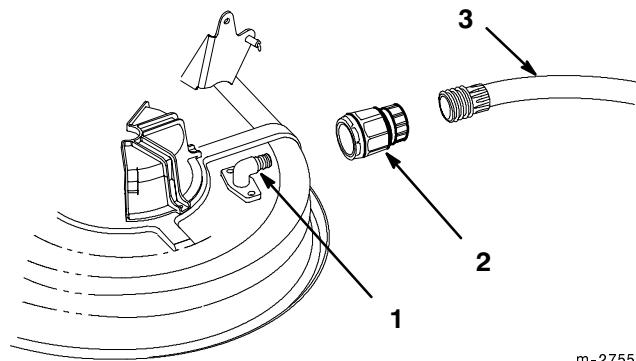

Figure 54
2. Screw the coupling to the end of a garden hose, attach the coupling to the mower washout fitting, and turn the water on high (Fig. 54).